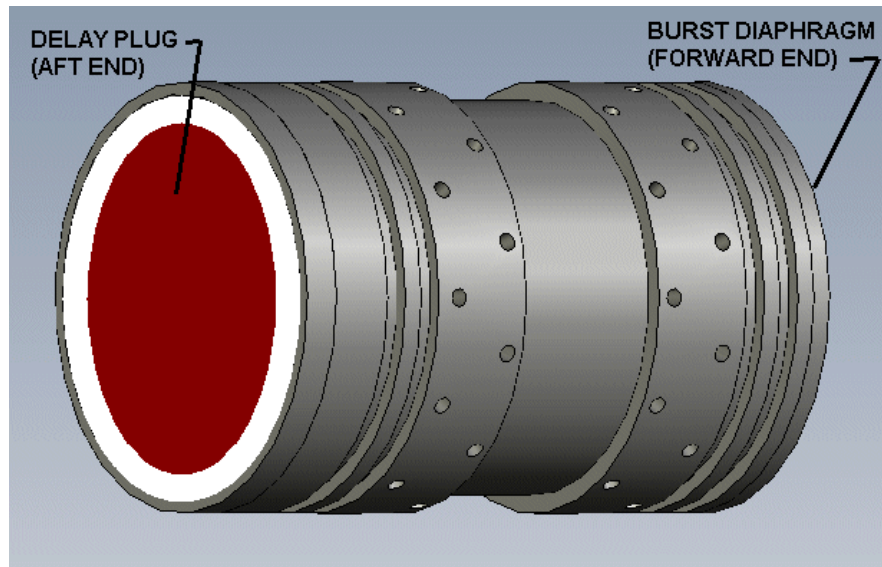

Figure 2 – Mid-bulkhead assembly, indicating Delay Plug (aft end) and Burst Diaphragm
1. Remove protective cover and poly wrap from Burst Diaphragm end of Mid-bulkhead. Leave protective poly wrap in place over Delay Plug (ref. Figure 2).